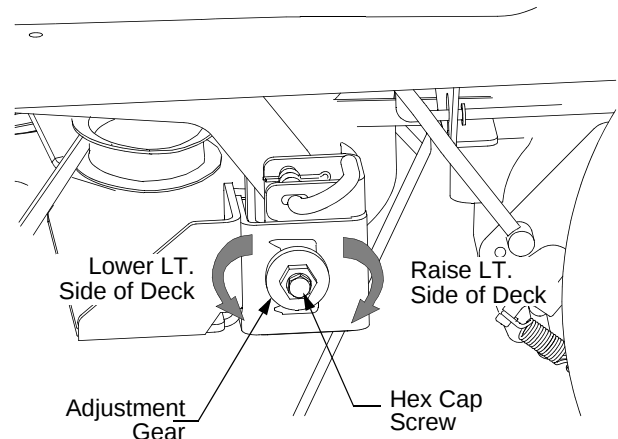

Figure 28
- Loosen, but do not remove, the hex cap screw on the right deck hanger bracket. Refer to Figure 28.
- Level the deck by using a wrench to turn the adjustment gear (found immediately behind the hex cap screw just loosened) clockwise to raise the left side of the deck, or counterclockwise to lower the left side of the deck. Refer to Figure 28.